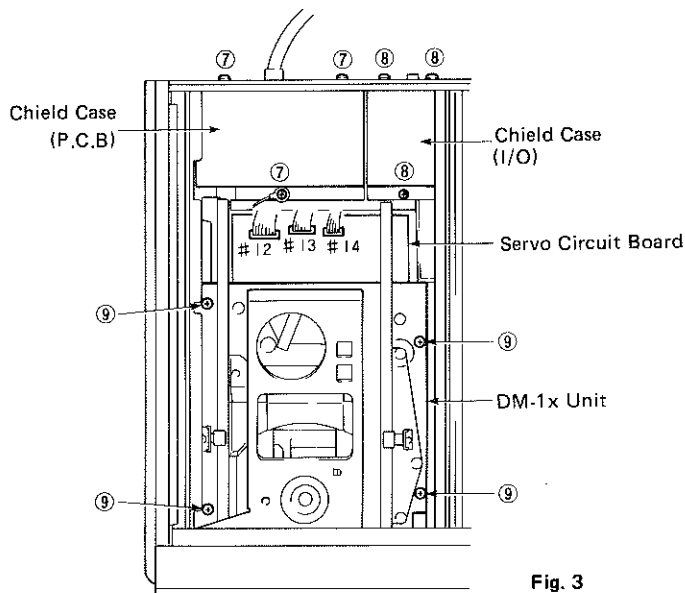

Fig. 3
- Remove 3 screws (⑦) in Fig. 3, and then remove the Chield Case (P.C.B).
- Remove 3 screws (⑧) in Fig. 3, and then remove the Chield Case (I/O).
- Remove 3 connectors (#12, #13, #14) in Fig. 3.
- Remove 4 screws (⑨) in Fig. 3, and then pull out the DM-1x Unit gradually.